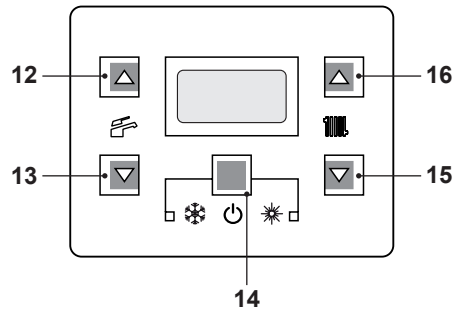
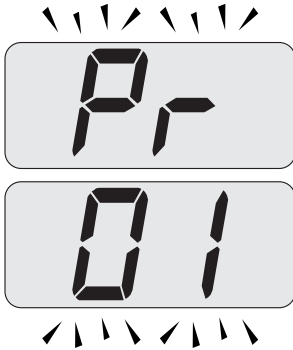
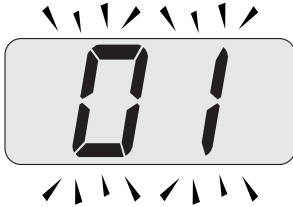

Fig. 7.50
Fig. 7.51
Fig. 7.52
- Enter the "programming mode" by pressing keys 14 - 15 - 16 (Fig. 7.50) for 10 seconds at the same time until the letters **Pr** that alternate with code **01** are displayed on the LCD display, indicating that "parameter 01" (Fig. 7.51) has been activated.
- Press keys 14 and 16 (Fig. 7.50) at the same time until the value of parameter 01 (35=Advance Plus 25C ERP or 36=Advance Plus 30C ERP or 37=Advance Plus 35C ERP) is displayed on the LCD display (Fig. 7.52).
- Press keys 14 and 15 (Fig. 7.50) at the same time to exit without changing the value (return to the parameters list Fig. 7.51).
- Press keys 14 - 15 - 16 (Fig. 7.50) at the same time for 10 seconds to exit the "programming mode".